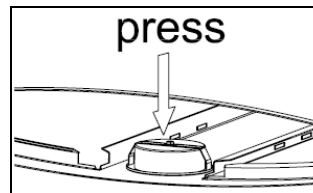

Fig. 12
### Light replacement (Fig. 12 & 12.1)
- Push out the light assembly from inside of the hood body (Fig. 12).